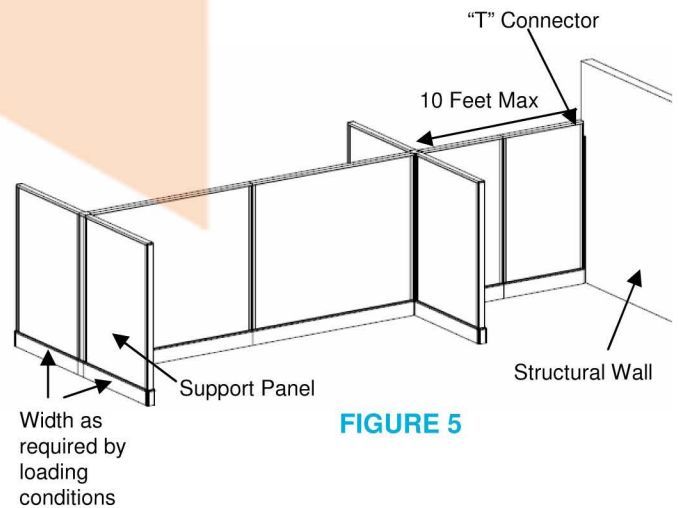

FIGURE 5
- G.** "T" and "X" connectors are used to connect panel runs to either a structural wall or building column. See figure 5.